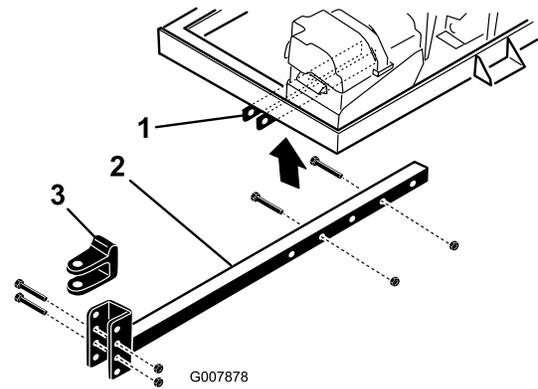

Figure 8
2. Insert the hitch tube into the frame brackets (Figure 8). Secure the tube to the frame with 2 bolts (3/8 x 3 inches) and flange nuts (3/8 inch).
- Remove the bolts and locknuts securing hitch clevis (Figure 8) to hitch tube.
- Remove the bolts and nuts securing the hitch tube to frame brackets (Figure 8).